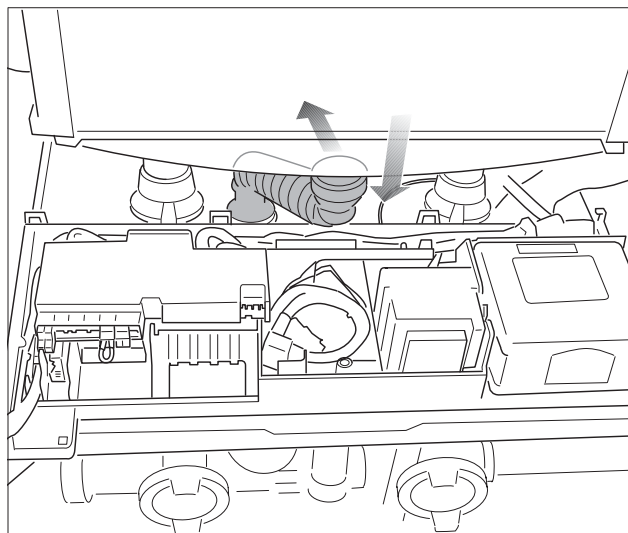

fig. 129 Removing the condensate trap hose
- Disconnect the flexible condensate drain hose and bend it backwards (fig. 129).